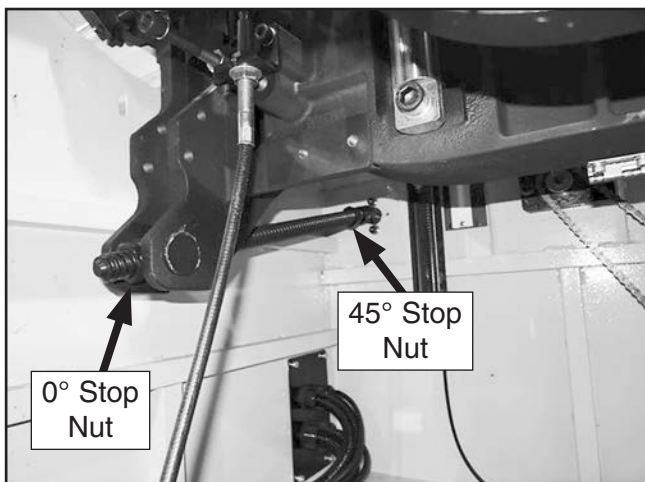

Figure 155. Blade tilt stop nuts.
3. Open cabinet door and identify the stop nuts shown in **Figure 155**.
Use a similar procedure for the 45° stop nut shown in **Figure 155**, as previously instructed for the 0° stop nut.